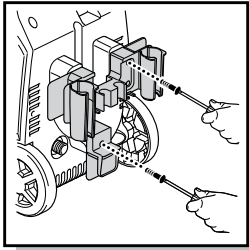
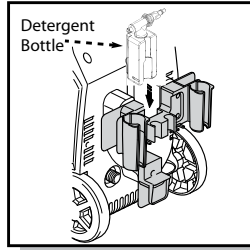

Fig. 1
Fig. 2
- Install the accessory holder on the back of your **BLUE CLEAN POWER WASHER** (Fig. 1). You'll notice where the accessory holder meets the back of the unit. You will see several male index posts which fit into female holes. The posts and holes enable easy placement of the accessory holder and easy tightening of the screws. Place the screws in the holes provided on the accessory holder and screw them in. Do not use a power screwdriver. When the screw is completely tight, give a small final clockwise twist of the screwdriver. Do not over tighten. After the accessory holder is installed you will notice a square area in the center of the holder where the square detergent bottle may be stored and easily retrieved (Fig. 2).
- Using one of the supplied screws, install the small electric power cord holder below the accessory holder so that the “L” - shaped holder faces downward. The electric power cord can now be wrapped around the accessory holder and the bottom “L” - shaped holder while your power washer is not in use (Fig. 1).